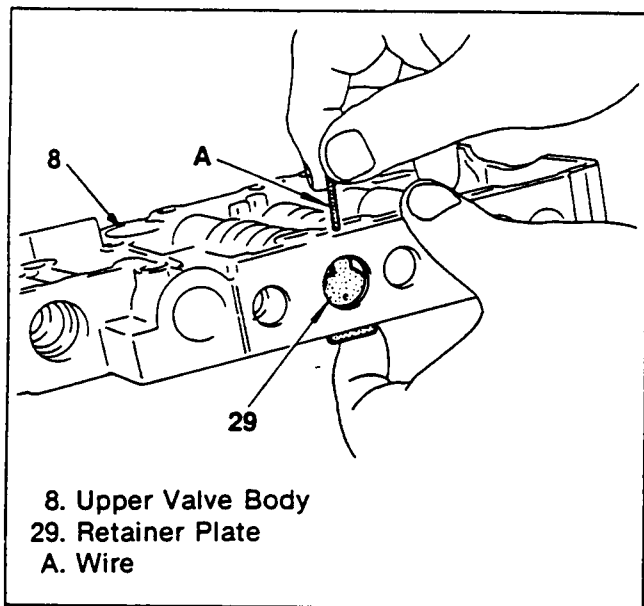

Figure 109. Retainer Plate Removal (1)
Control Valve Combined with Retainer Plate (Figures 109, 110 and 111)
1. Push retainer plate out with some fine wire (figure 109).